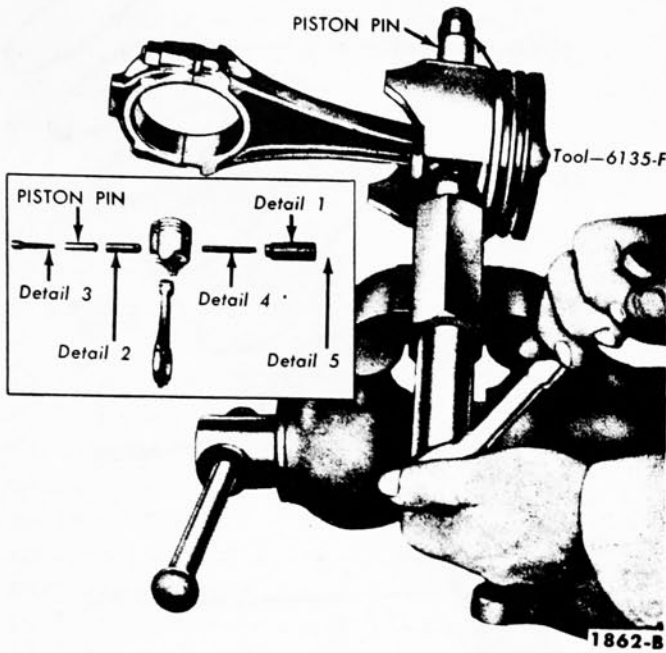
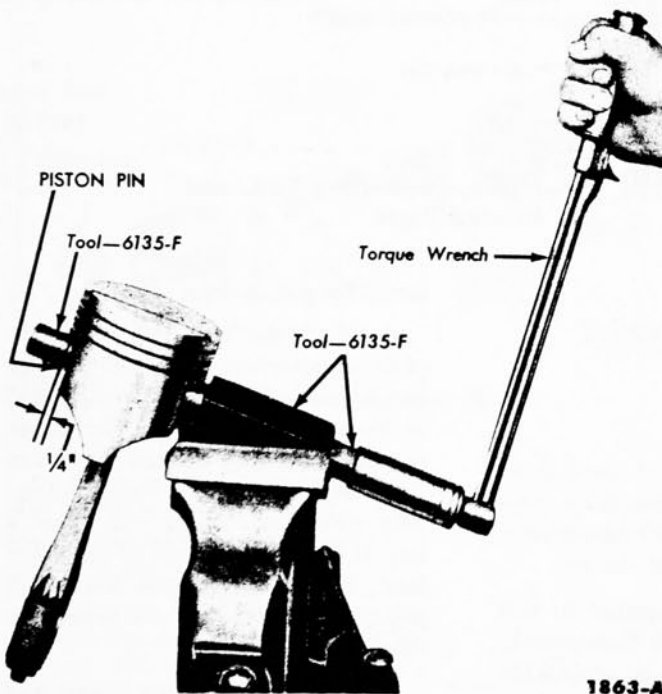

FIG. 27—Piston Pin Installation—Manually
FIG. 29—Checking Interference Torque Required to Seat Piston Pin
2. Start the piston pin in the piston and connecting rod as shown in Fig. 27 or 28. Press the piston pin through the piston and connecting rod until the end of the pin is approximately $\frac{1}{4}$ inch from the piston boss (Fig. 29). If a press is used to install the piston pin, remove the piston and connecting rod assembly from the press when the pin is pressed in within $\frac{1}{4}$ inch from the piston boss and install it in a vise.
3. Using a torque wrench, tighten the nut on the tool (Fig. 29) until the